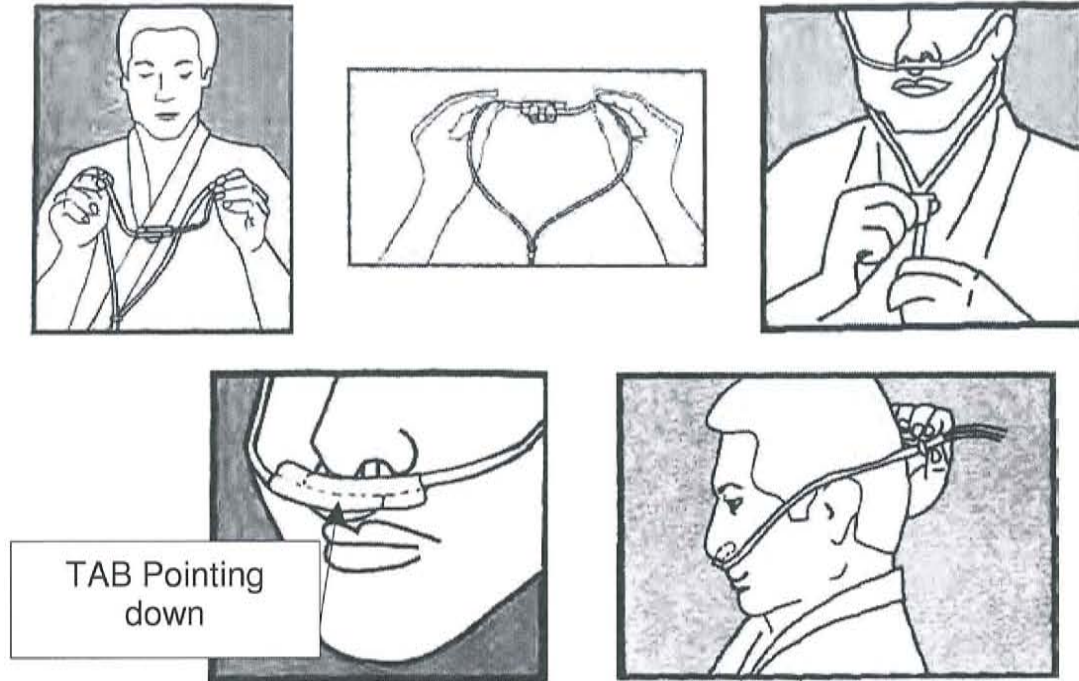

Figure 16 - PreciseFlow Conserver Cannula Usage
1. Please make sure you are wearing the cannula with the tab pointing down (found at the base of the nasal prongs - see Figure 16).